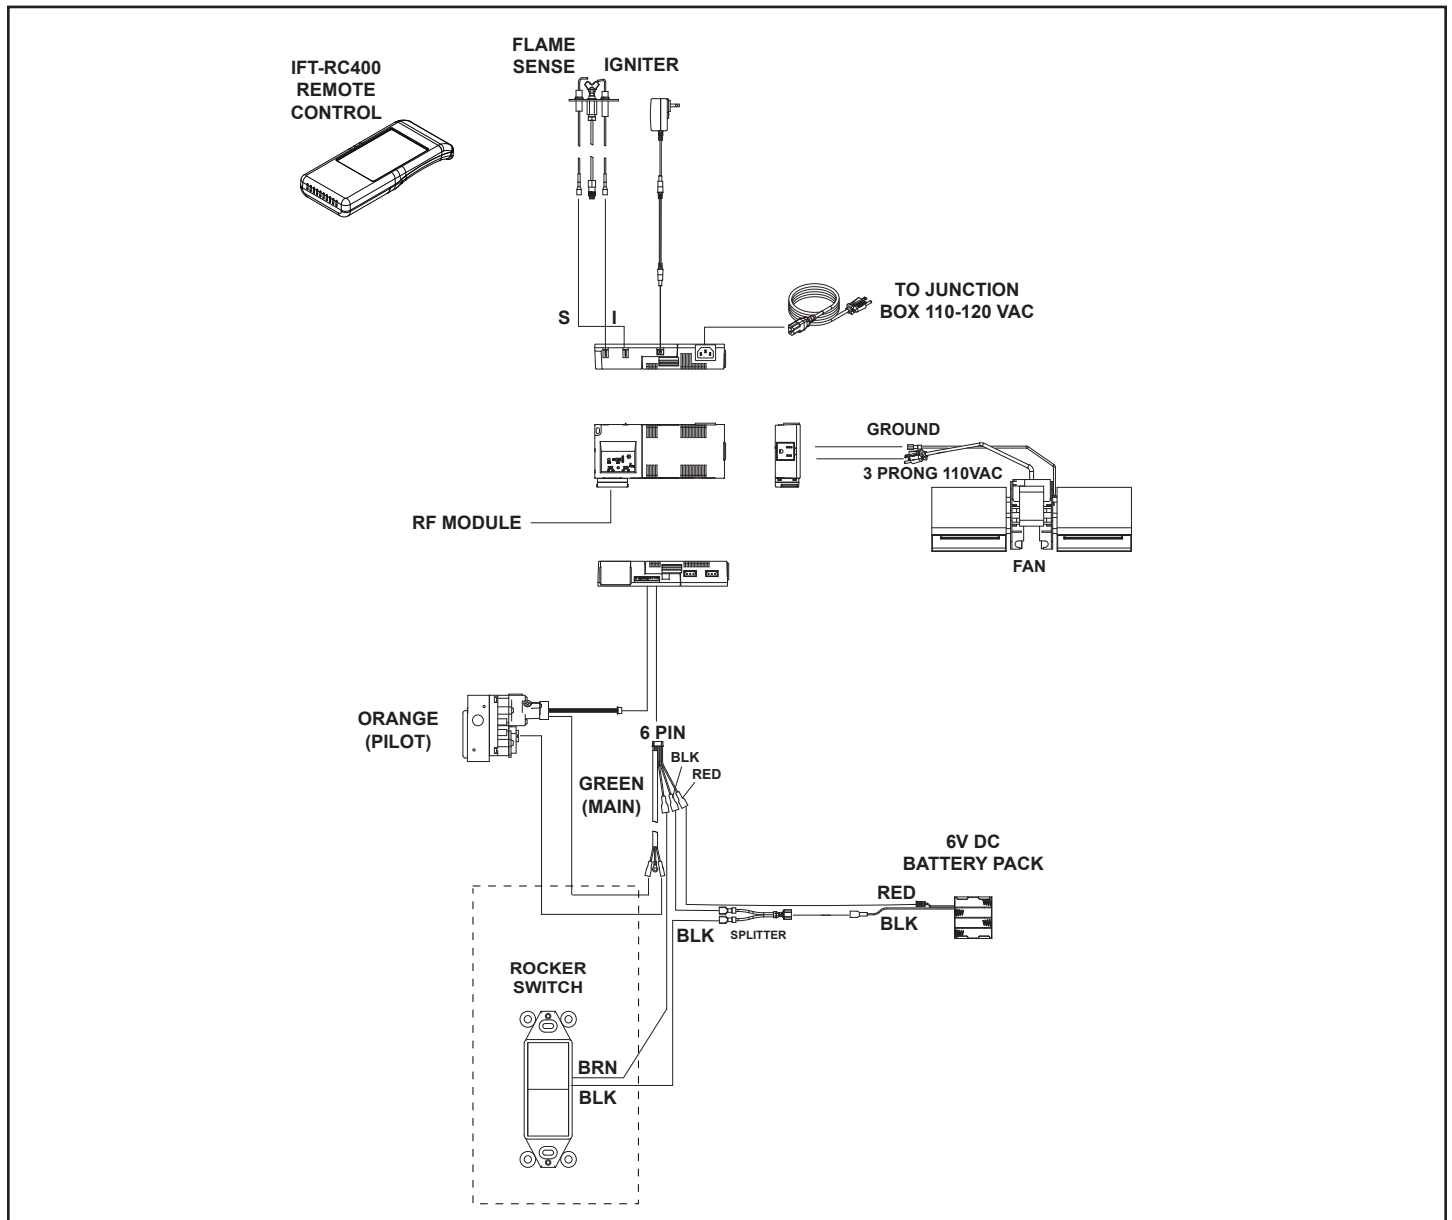

Figure 3.31 - SDDVT-IFT Wiring Diagram
- Refer to Figure 3.31, IFT Wiring Diagram.